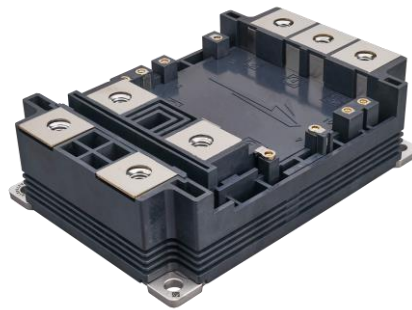

FIGURE 1: WOLFSPEED SILICON CARBIDE (SiC) LM3 HALF-BRIDGE MODULE
This document describes in detail a clamped inductive load (CIL) test fixture designed to accurately measure the voltage and current waveforms of a Wolfspeed LM power module, shown below in Figure 1, under an inductive load switching event. This enables the calculation of switching loss energies under precise test conditions to dynamically evaluate the module and facilitate in-module comparisons and power electronic system design. During a CIL switching event, the voltage across and the current through a switch position are simultaneously present. Multiplying these two waveforms point-by-point results in a time-domain function of the instantaneous power in units of Watts (W). The instantaneous power has large peaks two times per switching period at the turn-on and turn-off events. The instantaneous power can then be integrated using built-in oscilloscope MATH tools or waveform data and post processing to determine the total energy lost in Joules (J) during a given switching event.